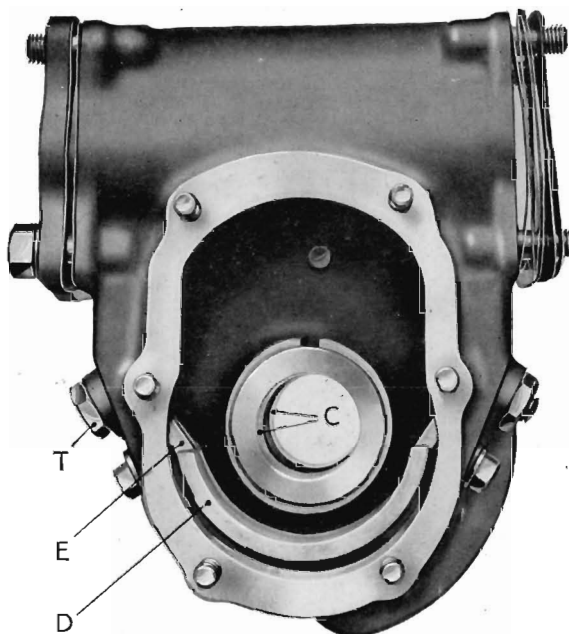

Fig. 1.
The drop arm (A), Fig. 2, is fitted on the serrated taper end of the rocker shaft (B), which is carried in bronze bushes (C), Fig. 1, the thrust being taken on a phosphor bronze bearing (D) secured in the casing by two retaining bolts (E). End play is taken up by means of an adjusting screw (W), Fig. 4. The fork (F), Fig. 2, is formed integral with the rocker shaft and carries a case-hardened roller (G) which rotates on roller bearings mounted on an adjustable pin (H). The roller engages with a cam track formed on a hardened sleeve (J) keyed on the tubular steering shaft and mounted on roller bearings (K). The steering wheel is keyed on the upper extremity of the steering shaft and the assembly is mounted in a robust trunnion bolted to the frame side-member.
Before re-assembling check that there is not excessive play in the rocker-shaft bushes ; this should not exceed .005 in. If the bearing (D), Fig. 1, is worn it can be removed by taking out the two bolts (E) and a new